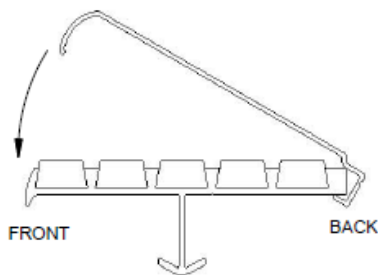

Figure 1
1. Install over back edge of nosing first, then clip front end over the nose. See Figure 1.